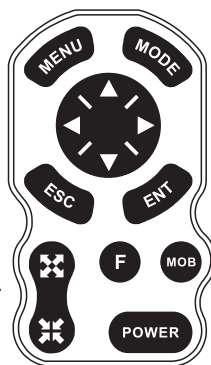

Figure1-1
1.1 Keypad Instruction (Figure 1-1)